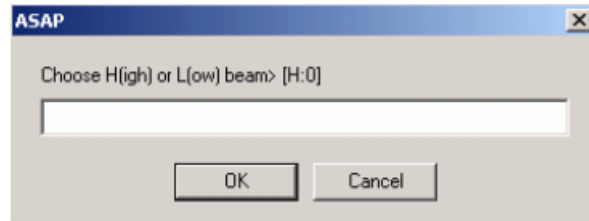

Figure 7 Filament bulb requiring user input for high or low beam
If you selected a dual filament bulb (for example, B1154), you are prompted to choose either the high (H) or low (L) filament. See Figure 7.